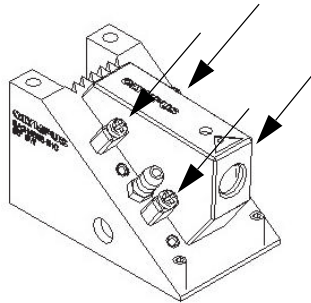

Figure 2-30 Removing the probe from the wedge
7. Using a cross-head screwdriver, unscrew the four screws that hold the probe on the wedge, and then remove the probe from the wedge (see Figure 2-30 on page 46).